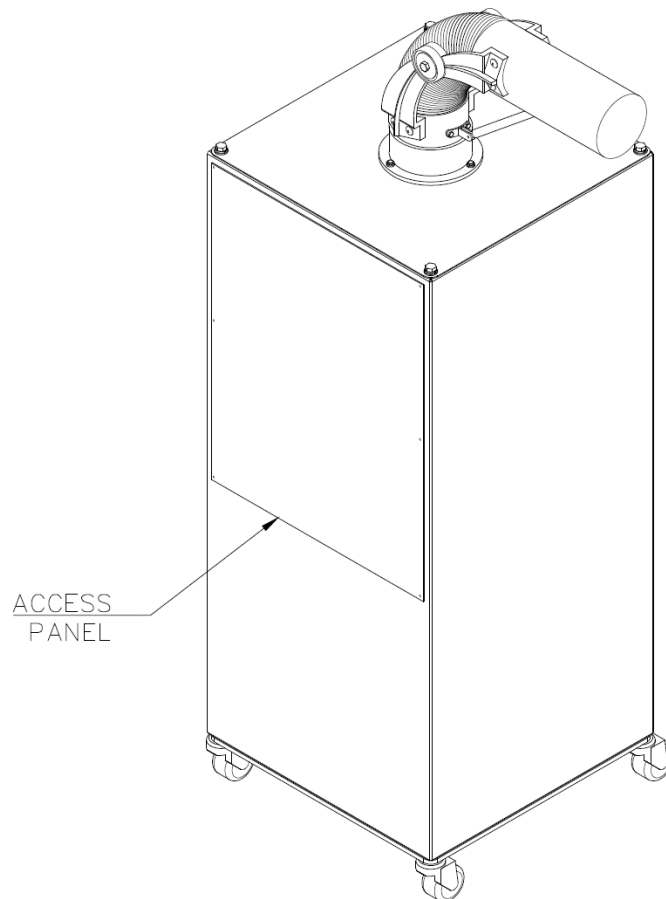

FIG. 3
4. Re-install the filter access panel (Fig. 3).